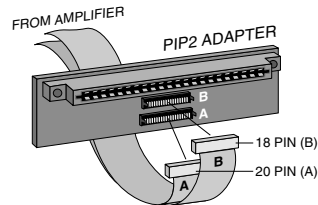

Fig. 4.6 PIP2 Input Adapter Connection
6. Remove the existing PIP or cover panel from the amplifier back panel (two screws). For PIP2 amplifiers, this may involve disconnecting the PIP from a PIP2 input adapter (Figure 4.6). If a PIP2 input adapter is already present, do not remove the ribbon cables from the adapter. Otherwise you will have to reconnect them in Step 9.
PIP2 Amplifiers: Connect the PIP2 input adapter to the two input cables of the amplifier (Figure 4.6). Notice that the PIP2 input adapter should be